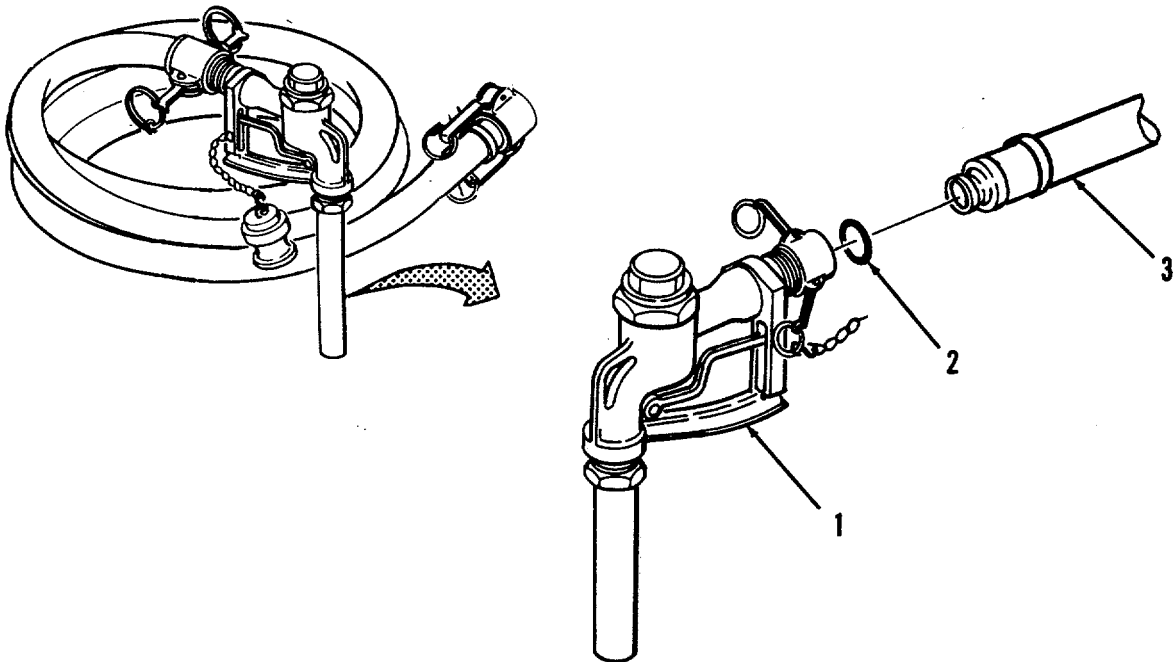

Figure 3-2. Nozzle Assembly Replacement.
- a. **Removal.** (Refer to Figure 3-2). Remove nozzle (1) and gasket (2) from discharge hose assembly (3).
- b. **Replace.** Install gasket (2) and nozzle (1) onto discharge hose assembly (3).